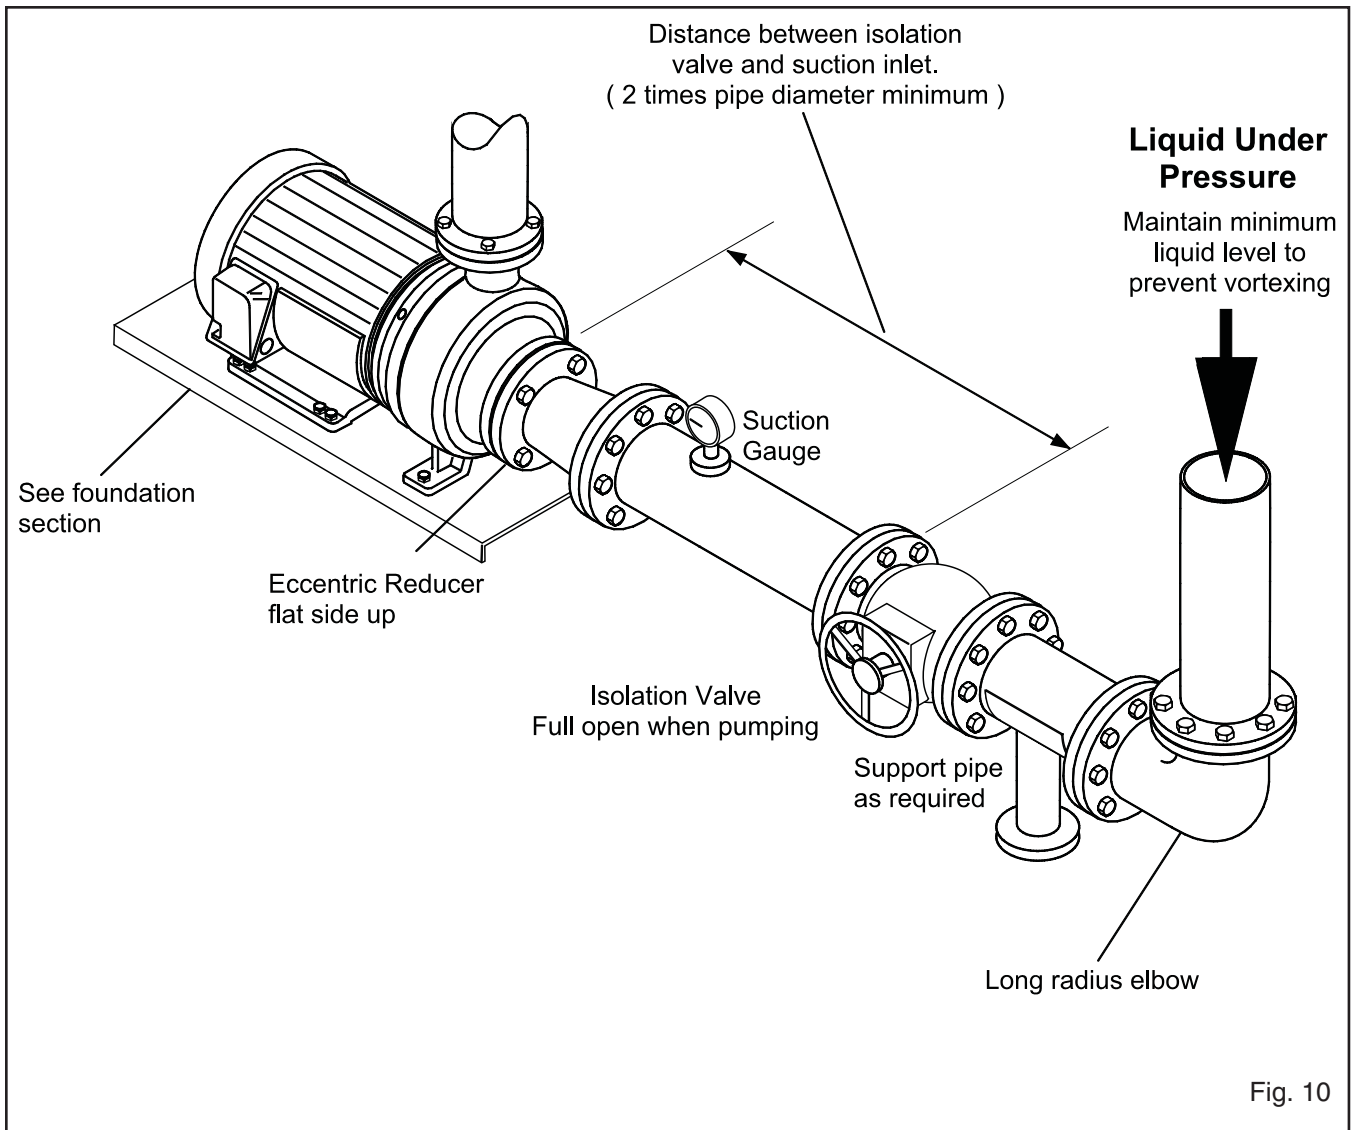

Fig. 10
1. An isolation valve should be installed in suction line to permit closing of the line for pump inspection and maintenance (Fig. 10).
4. The suction pipe shall be submerged sufficiently below the liquid surface to prevent vortices and air entrainment at the supply (Fig. 10).